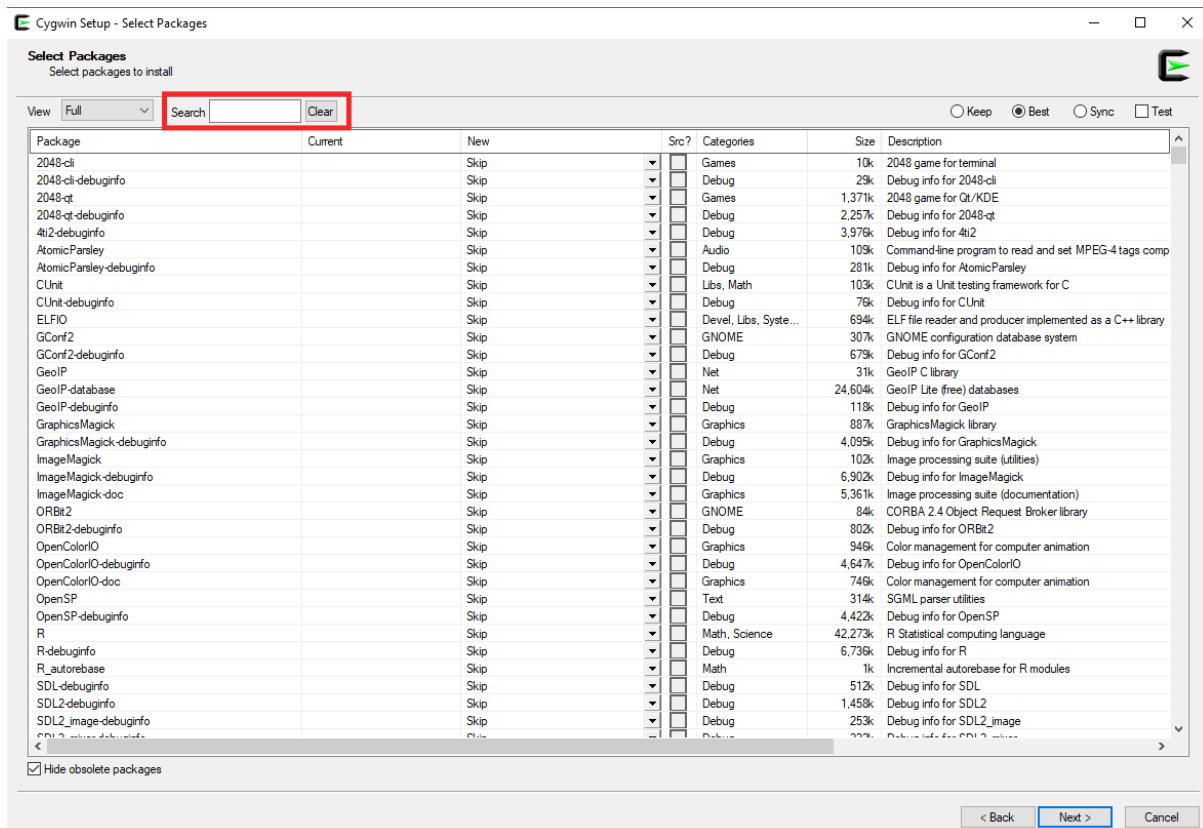

Figure 86. Select Packages window – Full view
- The complete list of packages that you can install will appear (Figure 86). In the **Search** box, select the specific packages that you want to install.